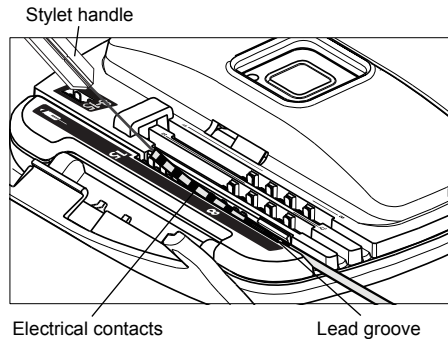

Figure 9. Align the lead contacts with the electrical contacts in the lead groove.
6. Check that the lead contacts align with the electrical contacts inside the lead groove (Figure 9).